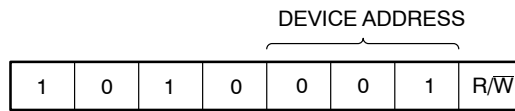

Figure 4. Slave Address Bits
The Master initiates data transfer by creating a START condition on the bus. The Master then broadcasts an 8-bit serial Slave address. The first 4 bits of the Slave address are set to 1010, for normal Read/Write operations (Figure 4). The next 3 bits are set to 0 0 1. The last bit, R/\overline{W} , specifies whether a Read (1) or Write (0) operation is to be performed.